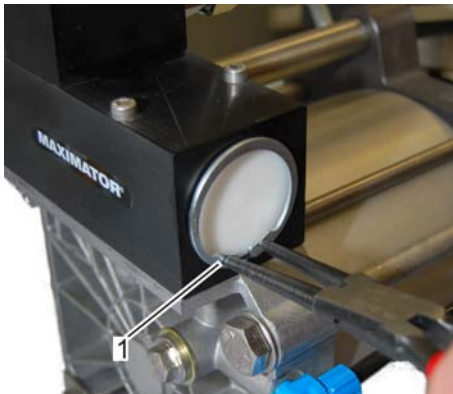

Fig. 38: Securing the cap
- 13.** Secure cap in control valve housing using circlip (Fig. 38/1).